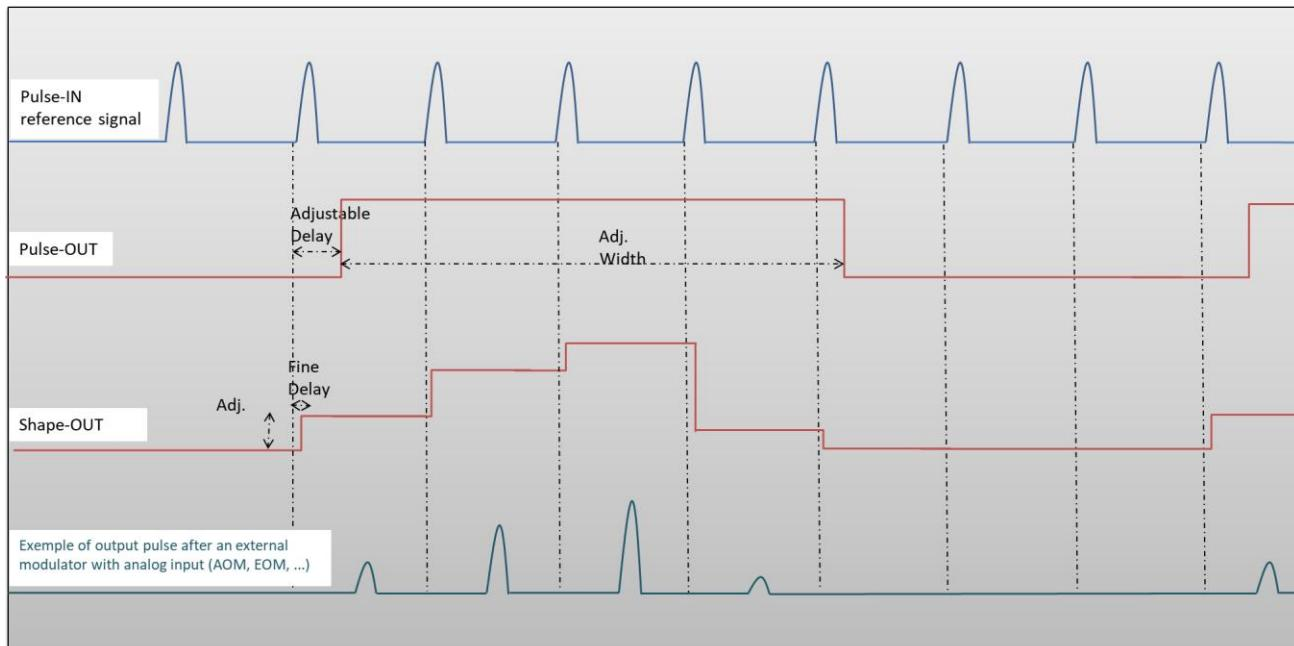

Figure 18 : Analog (Shape-OUT) and digital (Pulse-Out) outputs with amplitude, delay and pulse width adjusted signals from input
- **Auto Fine Delay** may be set in auto mode or manual if you need to adjust the fine delay from reference signal to each shape point (see Figure 18).